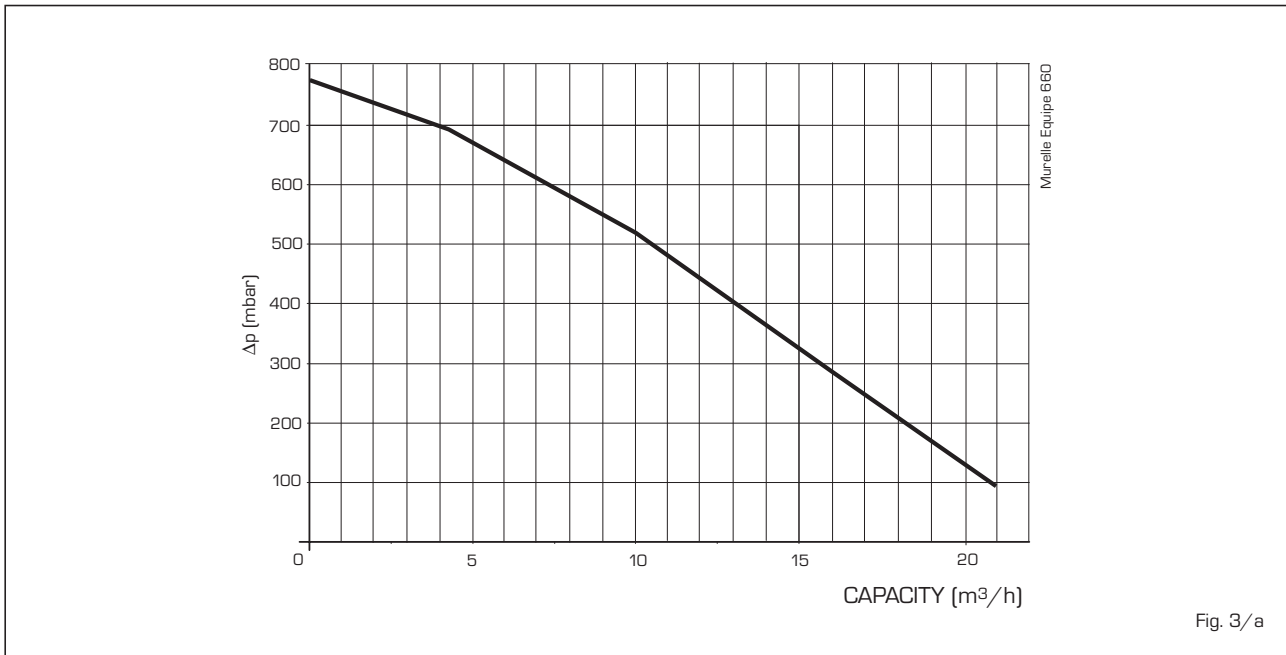

Fig. 3/a
1.6 AVAILABLE PREVALENCE TO THE SYSTEM, COLLECTORS DELIVERY AND SUPPLY FITTINGS MURELLE EQUIPE 220-550 (fig. 3)
MURELLE EQUIPE 660 (fig. 3/a)**